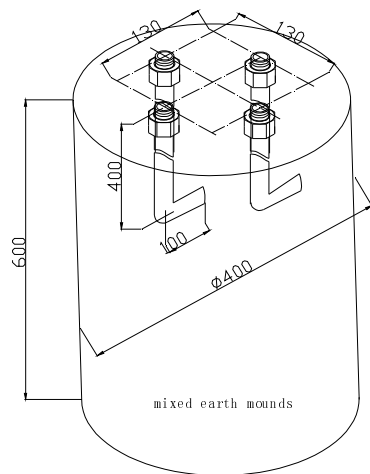

Figure1:manufacture of mixed earth mound
## **Figure 1 the fabrication of anchor, lasso and guy cable**
5. Please refer to the national standard, or the European standard, or American standard or figure 1 in this manual to arrange grounding device.